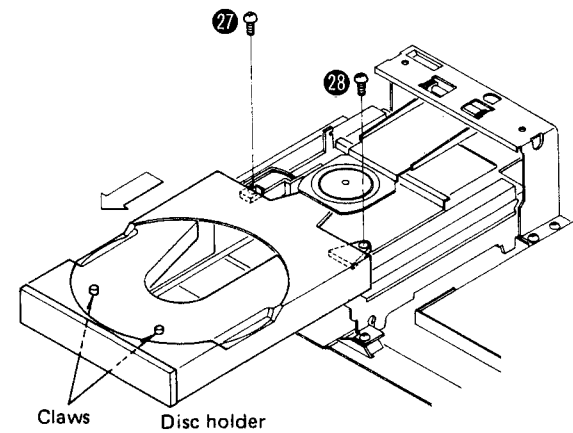

Fig. 12
3. Remove the disc holder setscrews. [Fig. 12 : 27, 28].
5. Remove the disc holder in the direction of the arrow as in Fig. 12.